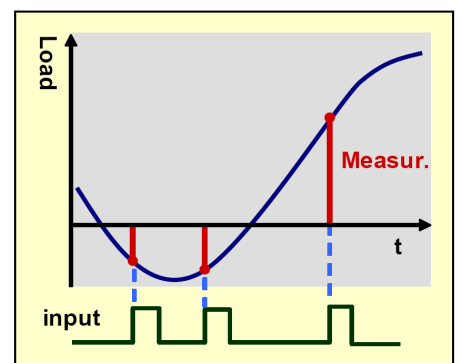

Fig. 4
6.2.1 Transmit measurement (Fig. 4)